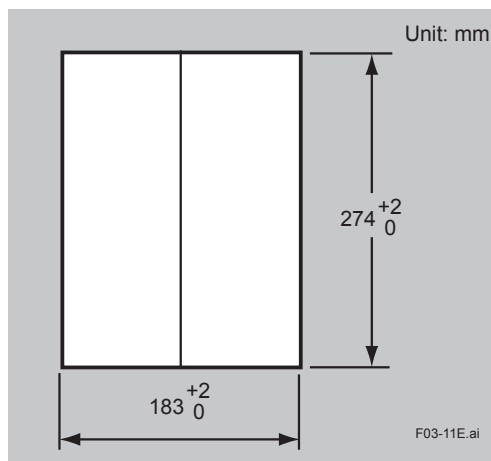

Figure 3.13 Panel cutout sizes
(1) Cut out the panel according to Figure 3.13.